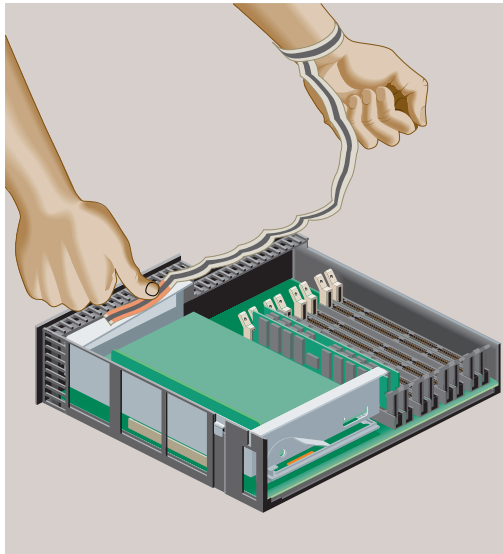

Figure 2-6 Attaching the Wrist Strap
2. Components on the system module are extremely sensitive to static electricity. Before touching any of the components, ground yourself to a metal part of the chassis. Attach the wrist strap to your wrist and to the PCI tray (Figure 2-6).